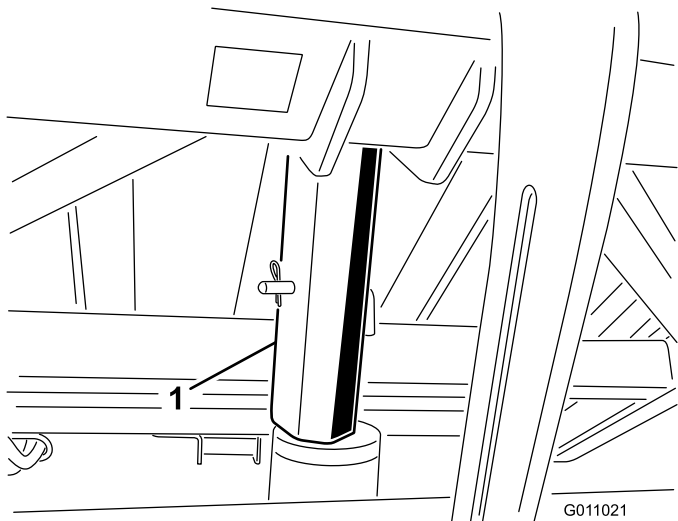

Figure 24
3. Insert the hopper safety support onto the cylinder rod, making sure the support end rests against the cylinder barrel and the cylinder rod end (Figure 24). Secure the hopper safety support to the cylinder rod with the hair pin cotter and pin.